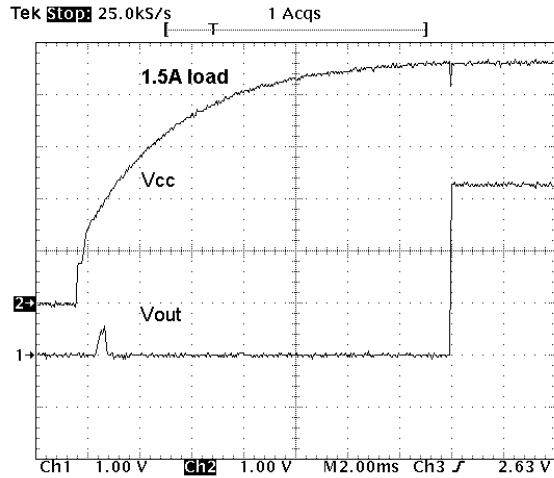

**Figure 5. VCC Supply Current (no load)**
**VCC Supply Current** of the device is shown across the entire VCC range in Figure 5.